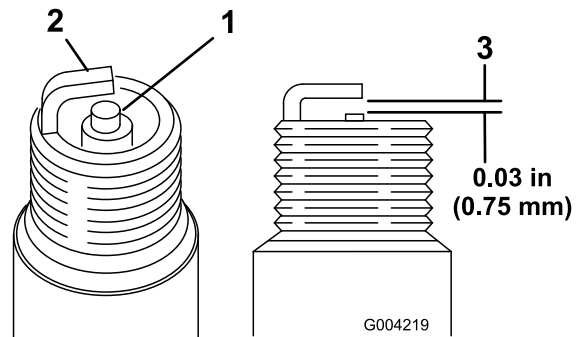

Figure 21
1. Look at the center of both spark plugs (Figure 21). If you see light brown or gray on the insulator, the engine is operating properly. A black coating on the insulator usually means the air cleaner is dirty.
2. Check the gap between the center and side electrodes (Figure 21).
3. Bend the side electrode (Figure 21) if the gap is not correct.